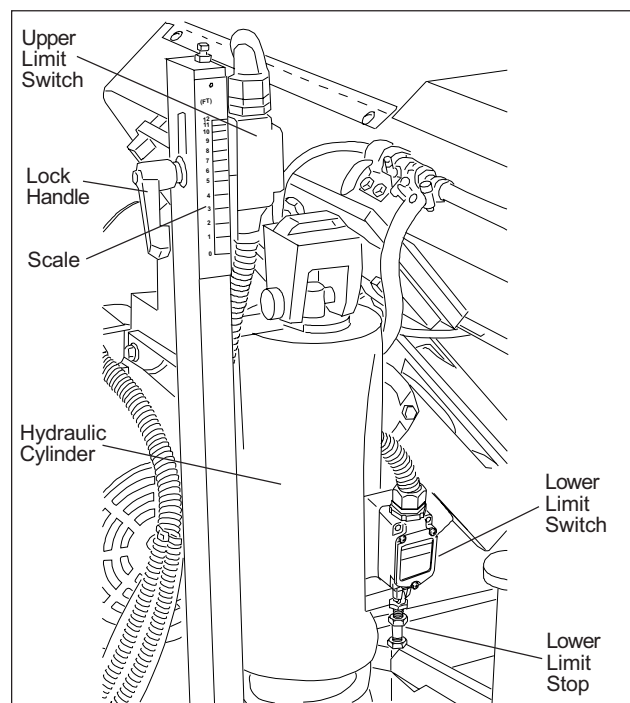

Figure 4: Limit Switches
1. To raise the saw head, press the Saw Head Up pushbutton. The saw head will raise until the upper limit switch (refer to Figure 4) trips.
3. When the saw head is being lowered to cut a workpiece, the saw blade drive motor must be started before lowering the blade against the workpiece. Set the coolant pump selector to the on (I) position If coolant is required by the material being cut.